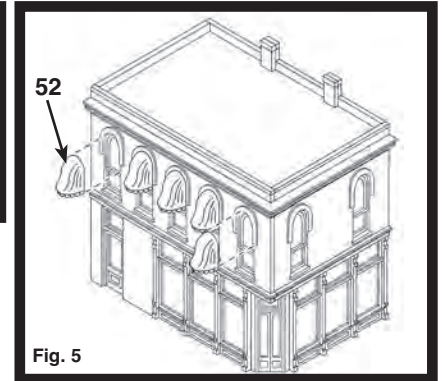

Fig. 5
3. Glue to Granny's Café (Fig. 5).